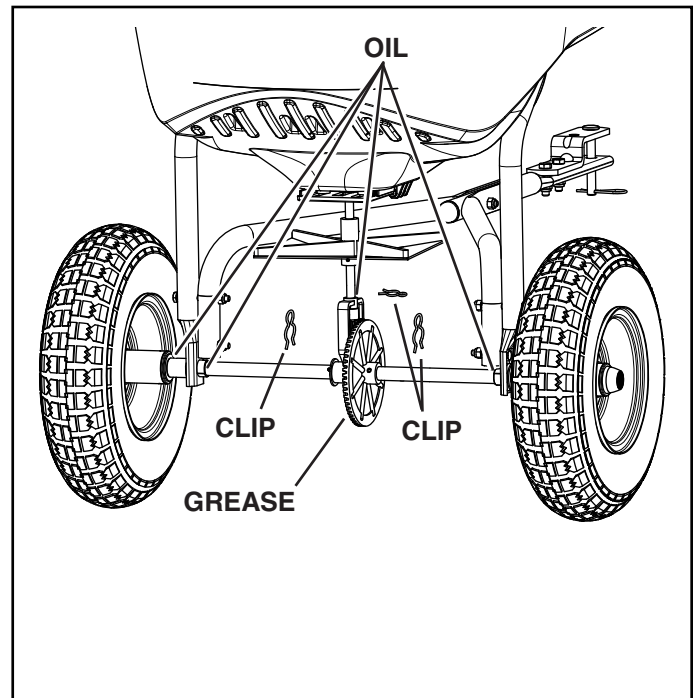

FIGURE 17
LUBRICATE (See Figure 17)
1. If the axle and gear assembly is disassembled, mark down the positions of the parts as they are removed. The drive wheel and large gear positions, in relation to the small gear, determine which direction the impeller will spin. Be sure to reassemble them in their original positions. (Refer to parts exploded view on page 18). Make sure the washers (items 18 and 31 on page 18 and 19) are in place when assembling the axle components. Add grease to gears. See Figure 17.